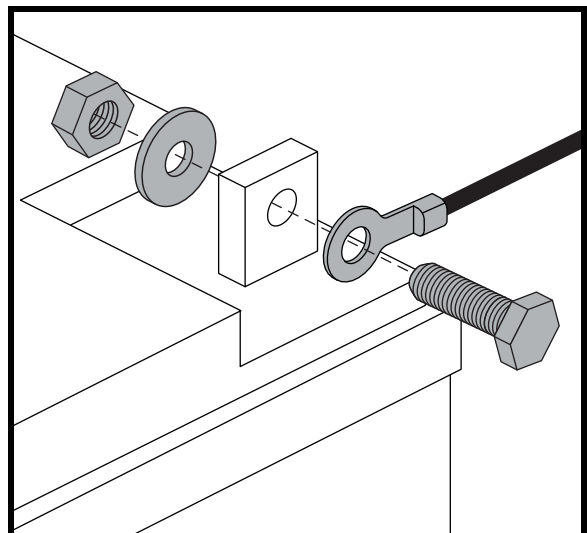

Figure 15. Battery Terminal Hardware
4. Disconnect the battery cables from the battery terminals by sliding back the terminal boots and unscrewing the nut from the bolt. **See figure 15.**